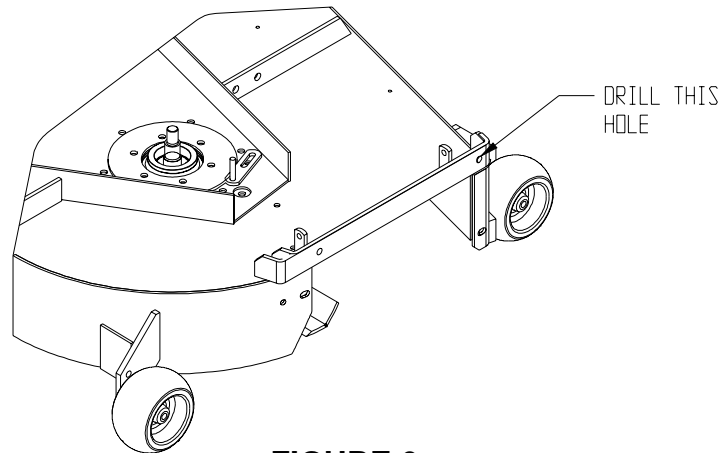

FIGURE 6
20. 72" units below serial number 260,000 will require the deck to be modified by adding the accessory mounting tube. Exmark kit 103-0583 contains the parts and templates required. Follow the instructions in this kit. These decks will also require drilling the hole at the front upper corner of the discharge opening to $\frac{1}{2}$ inch diameter. (See Figure 6). Touch up with red paint Exmark P/N 850337.